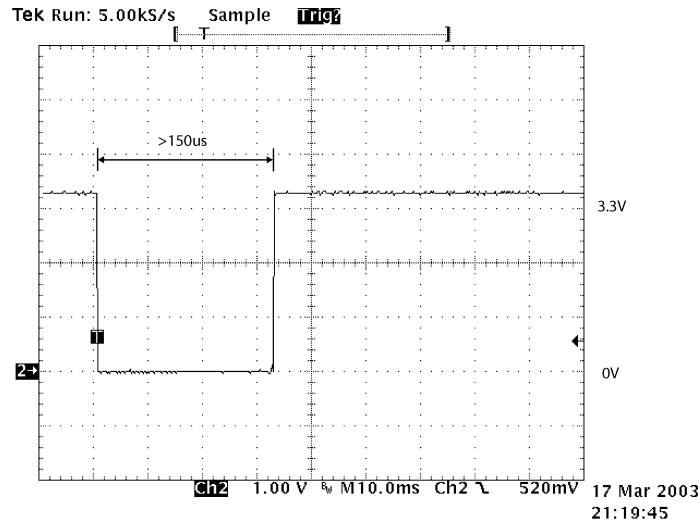

Figure 2. Reset Signal
1. Reset signal level: Hardware reset is an active low signal. Make sure the reset reaches the active low logic level during the active state. If reset is distributed to multiple GPHY on a board, probe each reset pin on the GPHY to make sure the signal reaches each device. Check to make sure the inactive level meets the logic high requirement (Figure 2) so that the GPHY internal logic starts normal operation.